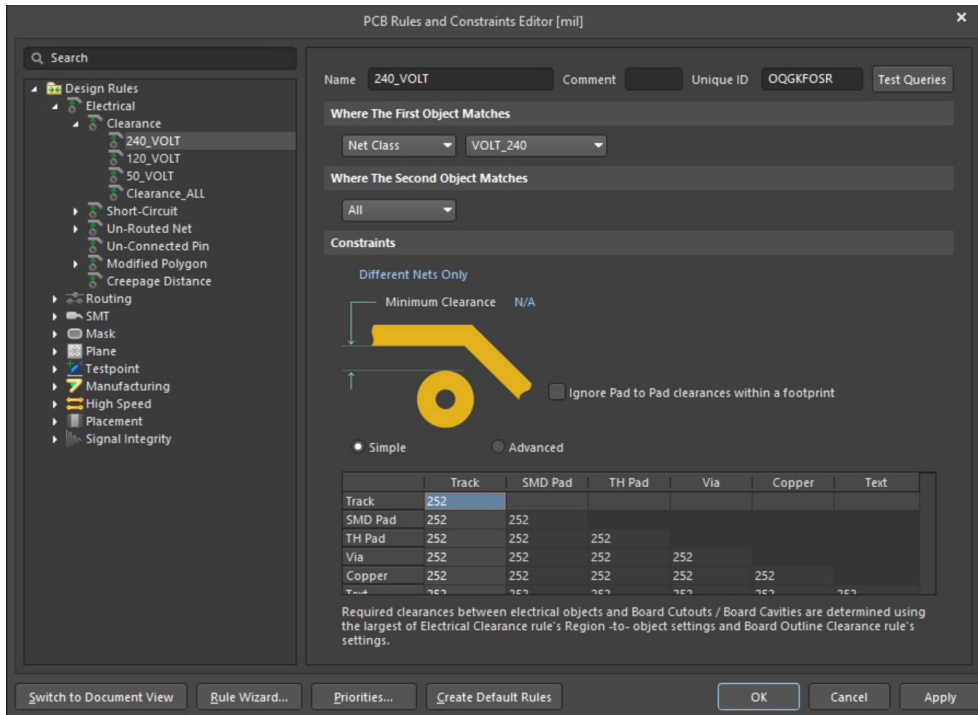

Figure 2. PCB Rules and Constraints Editor
7. Go to **Design » Rules** to open the *PCB Rules and Constraints Editor* as shown in Figure 2.